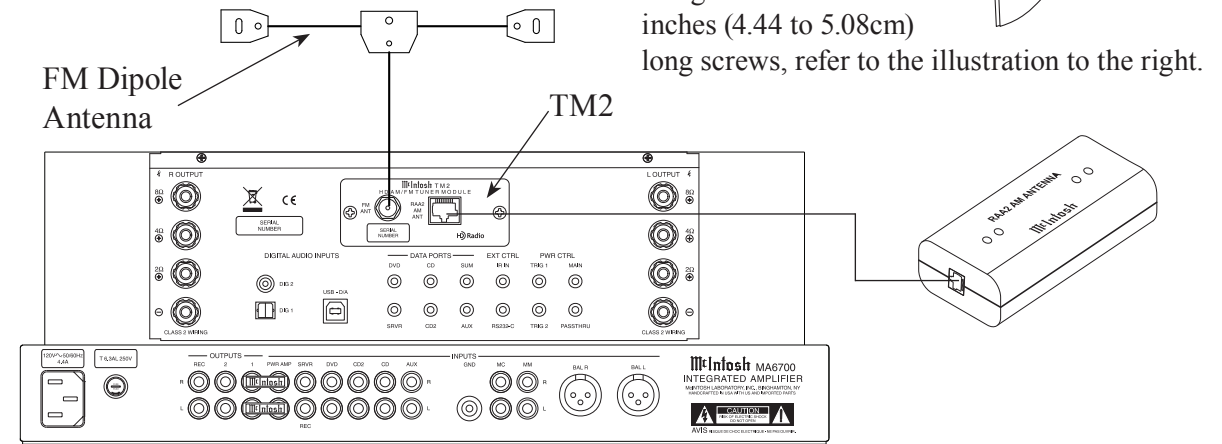

Figure 5A
- Using the supplied AM Antenna Shielded Cable, connect one end into the RAA2 AM Antenna jack and the other end of the same cable into the MA6700 Tuner jack labeled RAA2 AM ANT. Refer to figure 5A with a TM2 installed and figure 5B with a TM3 installed.
- Connect a FM Dipole Antenna to the MA6700 75 Ohm FM ANT Connector. Refer to figure 5A for a TM2 installed and figure 5B for a TM3.